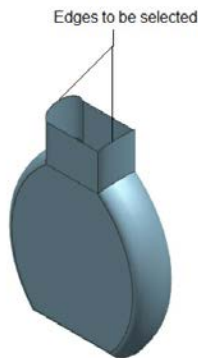

Figure 11-53 Objects to be selected
- h. Create the bridge surface over the extruded surface using the **Bridge** tool, refer to Figures 11-53 and 11-54.
2. Select the first edge and then the second edge, refer to Figure 11-53. Choose the **Reverse Direction** button from the **Edges** rollout, if required.